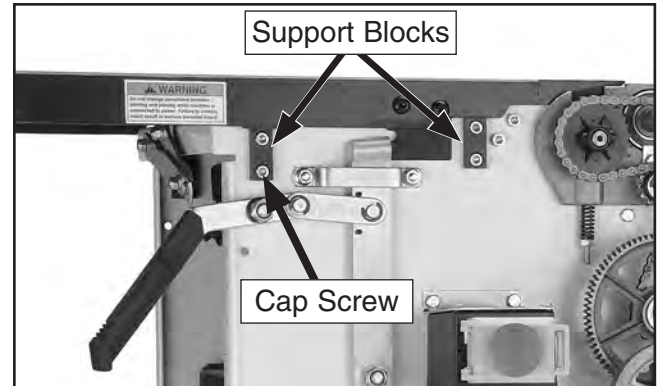

Figure 60. Location of front outfeed table support blocks.
- Loosen the cap screws on both outfeed table support blocks (see **Figure 60**).